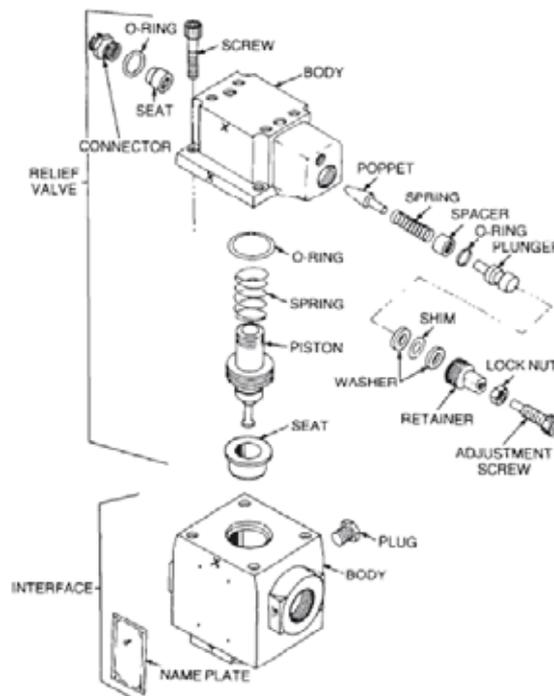

Figure 50 Relief Valve and Interface – Exploded View
- n. Remove the adjusting screw and locknut (Figure 50).